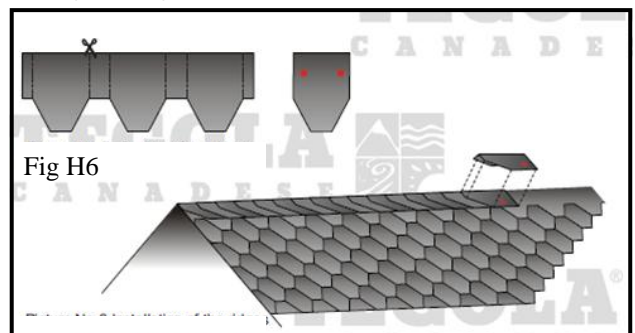

Fig H7
23. Fix the ridges with 2 nails on each piece which will be overlapped by the following piece (Fig H7).